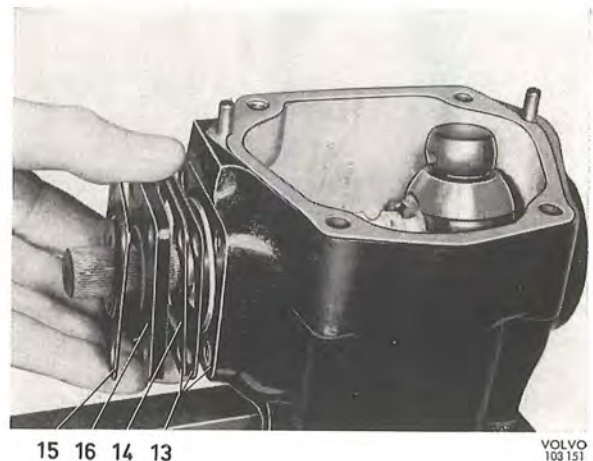

Fig. 6-49. Removing the steering cam cover
4. Remove the steering cam cover with retainer and shims, see Fig. 6-49.
5. Fit the oil seal (16) in the steering cam over (14) with the seal lip facing inwards. Fit the gasket, shim, gasket, cover and retainer, see Fig. 6-49. The gaskets have a thickness of .127 mm (.005") and the shims are available in thicknesses of .05, .127 and .254 mm (.002, .005 and .010"). Tighten the four bolts to a torque of 1.7—2.1 kgm (12—15 lb.ft.).